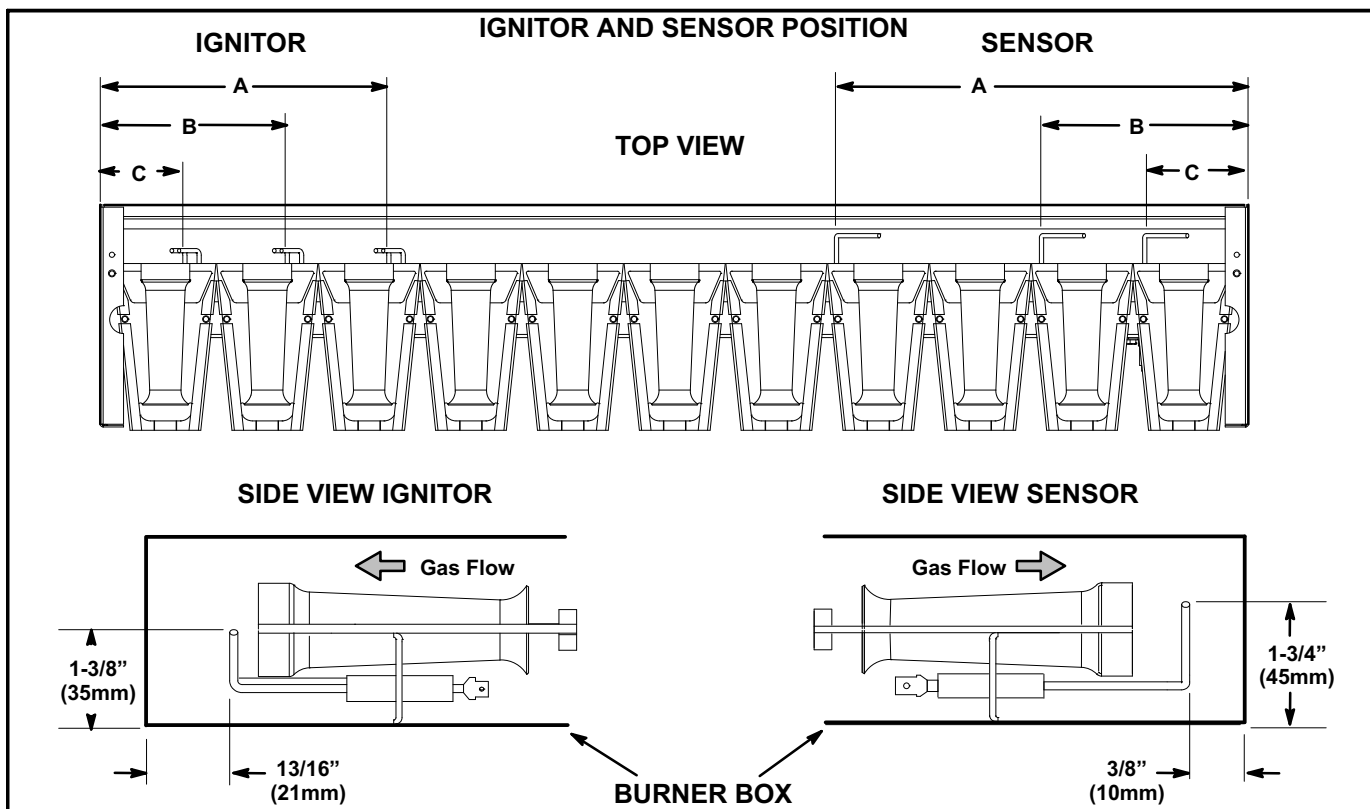

FIGURE 29
- 5- Check the alignment of the ignitor and the sensor as shown in figure 29 and table 21.